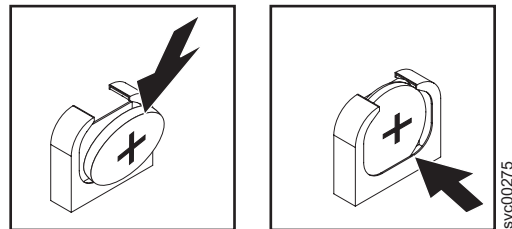

Figure 138. SAN Volume Controller 2145-8G4 CMOS battery holder
- b. Press the battery down into the socket until it clicks into place. Make sure that the battery clip holds the battery securely, as shown in Figure 138.